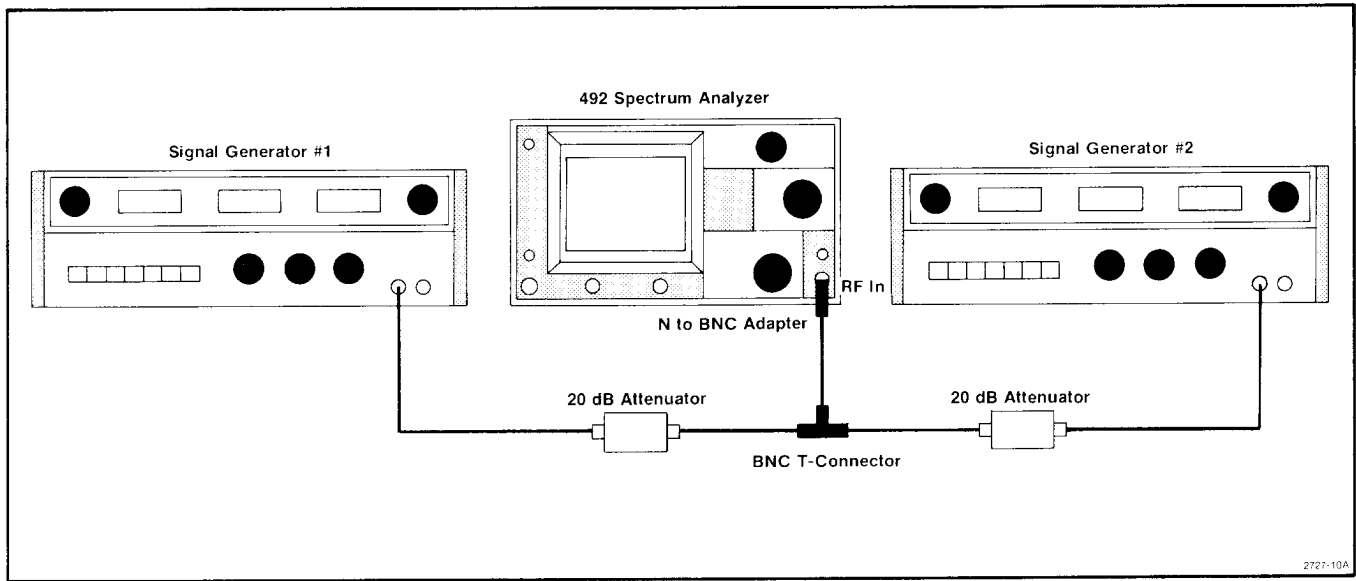

Fig. 3-13. Test equipment setup for measuring intermodulation distortion.
b. Apply two signals from two 50Ω sources, separated about 2 MHz and within the frequency range of band 1. Apply the signals through 20 dB attenuators (for isolation), a bnc "T" connector, and bnc-to-n adapter, to the 492/492P RF INPUT (test equipment setup is shown in Fig. 3-13).